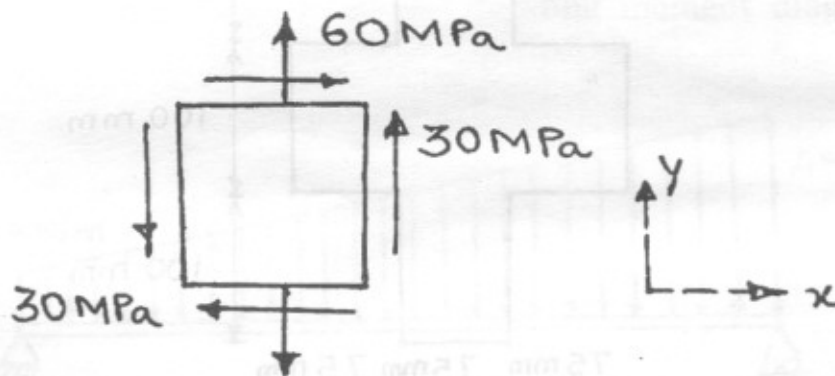

Fig. 7 (a)
7. (a) For the state of stress shown in the Fig. 7 (a), determine the principal stresses and the maximum shear stress. Show all results on properly oriented element. [8]